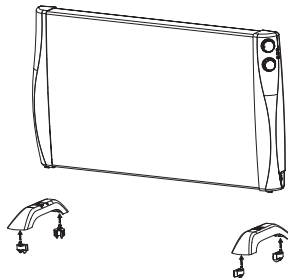

Figure 1
1. Fix the caster into the feet mounting hole(Figure 1).